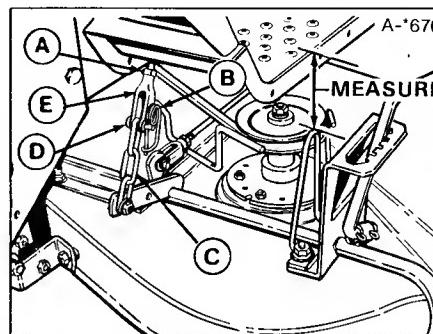

Figure 38. Lift Assembly - Small Lift Lever
2. Measure the distance between top of upstop bracket and bottom of footrest (figure 38). The measurement should be $2\frac{1}{16}$.
3. To adjust, disconnect elevis (E) from chain. Loosen nut (A) and turn elevis to raise or lower mower. Re-connect chain to check measurement. When correct, tighten nut against elevis.